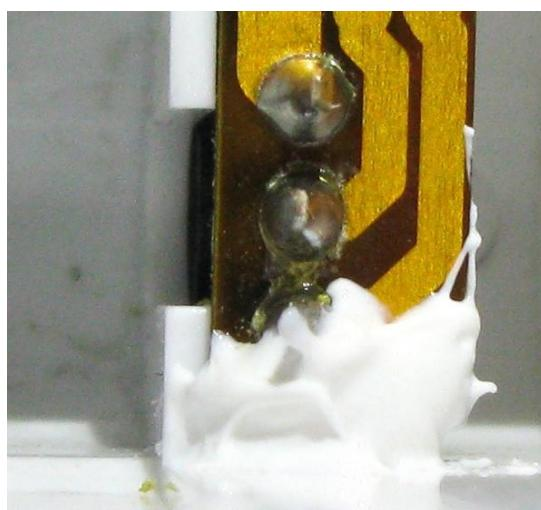

Fig. 56 Correct structural adhesive quantity
7. Apply **TB-10** structural adhesive on the lower part of the **Potentiometer (7)** in the quantity indicated on the **Fig. 56**.